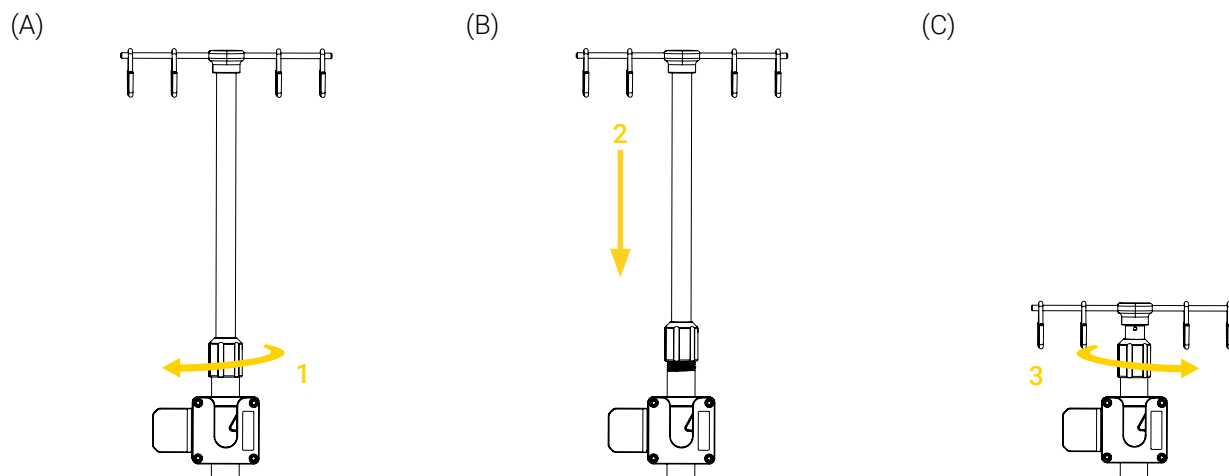
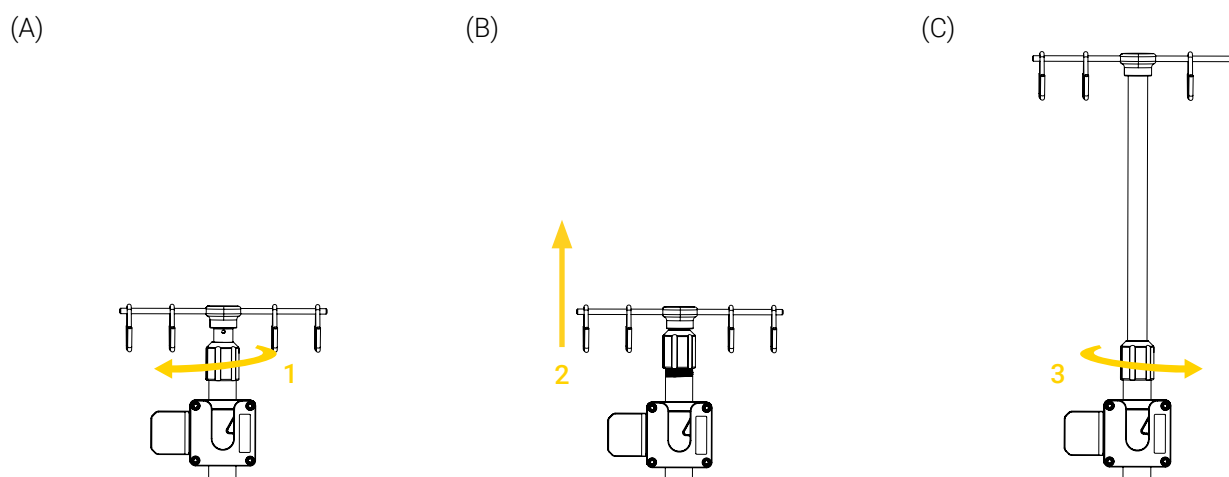

Figure 51: Lowering the height of the IV pole
Figure 52: Raising the height of the IV pole
2. Lower (Figure 51) or raise (Figure 52) the pole, then turn the collar clockwise to tighten and secure the pole in place.